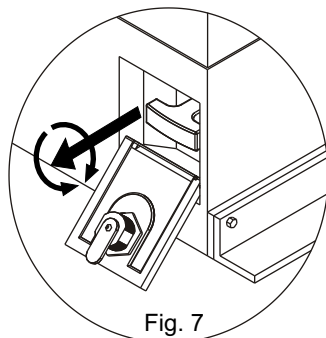

Fig. 7
- Grab the handle of the release and pull outward winning the resistance of the inner spring (Fig. 7).